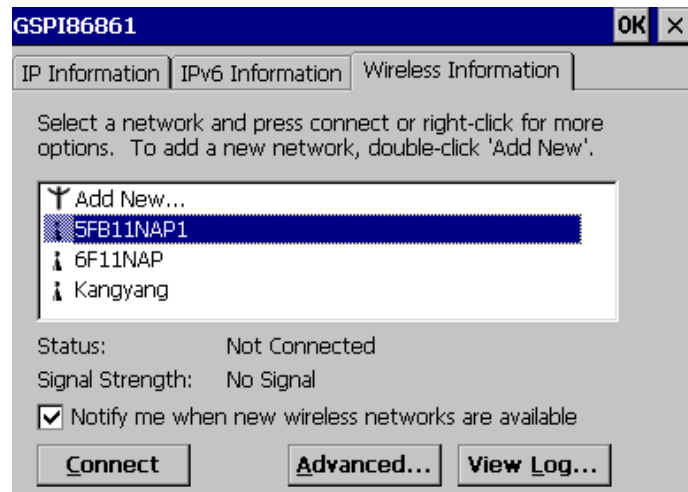

Figure 4-20: Wireless AP
Step 1: When turn on the power, Wireless AP start to search wireless base stations around as shown below. (**Figure 4-20**).